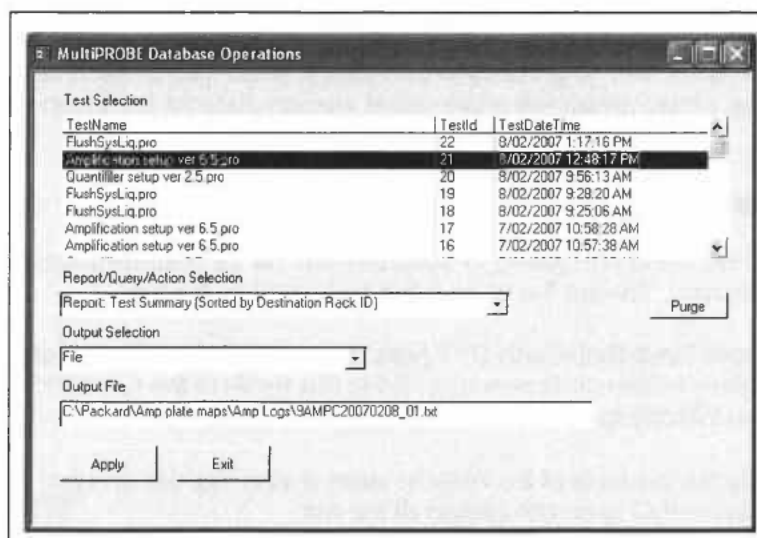

Figure 4. The MultiPROBE log database for collecting MP II run information
49. In the Output Selection dropdown menu, select "File". Save the output file as *.csv format to C:\PACKARD\EXT PLATE MAPS\EXT LOGS with the same name as the AUSLAB batch ID and click **"Apply"**. (refer to Figure 4. below)